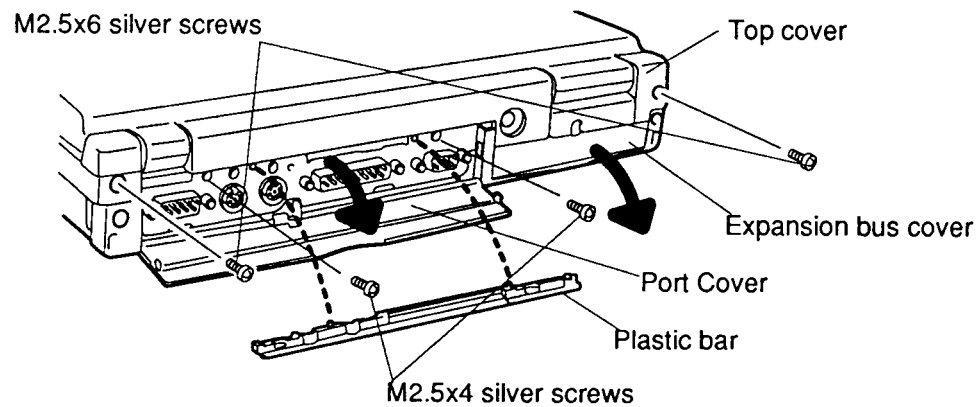

Figure 4-8 Removing the Top Cover
To remove the T4500/T4600 Family computer's top cover, follow the steps below and refer to Figures 4-8 and 4-9.
3. Remove the **two M2.5x6 silver screws** securing the **top cover**, at the back corners of the computer (Figure 4-8).
4. Pull open the **port cover** on the back of the computer and take out the protective **plastic bar** seated above the ports (Figure 4-8).
5. Remove the **two M2.5x4 silver screws** that were covered by the plastic bar (Figure 4-8).
6. Carefully remove the **expansion bus cover** (Figure 4-8).
To install the computer's top cover, follow the steps below and refer to Figures 4-8 and 4-9.
7. Secure the **two M2.5x4 silver screws** above the PS/2 mouse and RGB ports (Figure 4-8).
8. Replace the protective **plastic bar** above the ports (Figure 4-8).
9. Secure the **two M2.5x6 silver screws** at the back corners of the computer (Figure 4-8).
10. Replace the **expansion bus cover** (Figure 4-8).